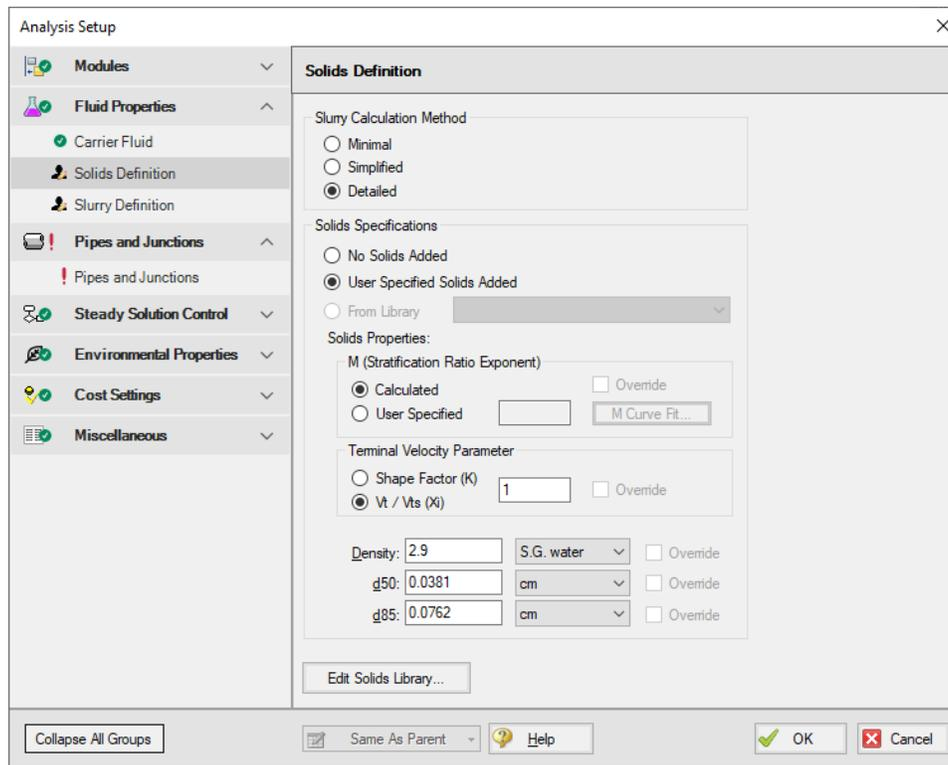

Figure 3: Solids Definition panel in the Fluid Properties group in Analysis Setup with SSL activated
3. Solids Definition (Figure 3)